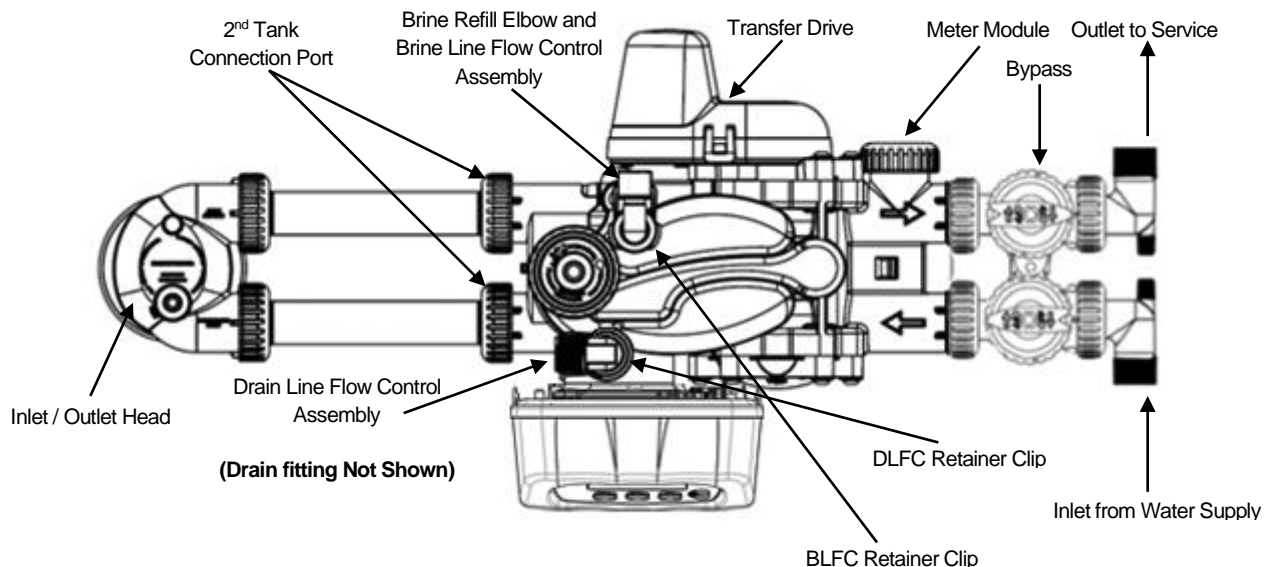

FIGURE 6: Top View of Control Valve with Bypass Installed
STEP 6: **Apply thread tape to DLFC Assembly.** Remove drain line flow control (DLFC) retainer clip (Figure 6, Page 5) and remove the DLFC assembly from the valve body, (Figure 6, Page 5). Apply thread tape to threads. Slide drain fitting compression nut onto provided drain tubing and place the tube insert inside the end of the tubing. Insert tubing end with insert into drain elbow and tighten the compression nut onto the thread taped elbow. Reinsert DLFC assembly into the valve body, making certain it is FULLY inserted before replacing the retaining clip.
STEP 8: **Connect brine line between the softener and safety brine valve.** Install the 3/8" O.D. polyethylene tube from the brine refill elbow (Figure 6, Page 5) to the safety brine valve (Figure 7) inside the brine tank. **DO NOT INSERT THE BRINE REFILL LINE INTO THE BRINE TANK OVERFLOW ELBOW FITTING. Do not put salt in the tank until STEP 27.**